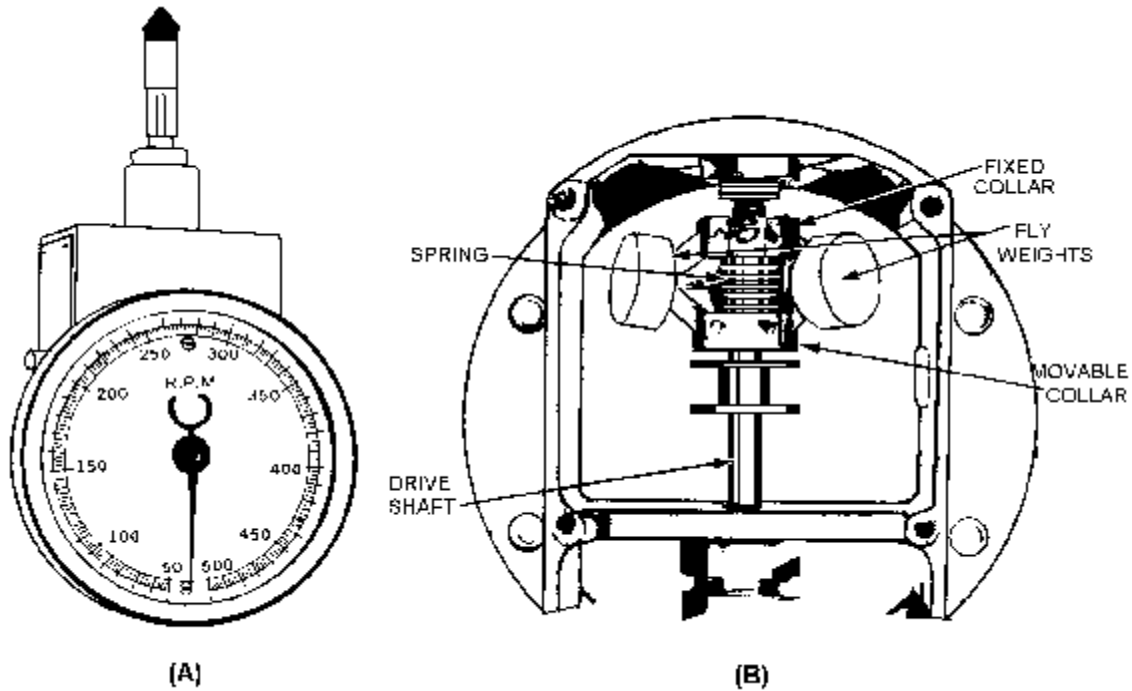

Figure 2-5.—Centrifugal tachometer.
**CENTRIFUGAL TACHOMETER.**—A centrifugal-type tachometer is illustrated in figure 2-5, view A. View B shows the internal arrangement of the centrifugal tachometer; refer to view B in this discussion. In the centrifugal tachometer, centrifugal force acts upon fly weights that are connected by links to upper and lower collars. The upper collar is affixed to a drive shaft; the lower collar is free to move up and down the shaft. A spring, which fits over the shaft, connects the upper and lower collars.